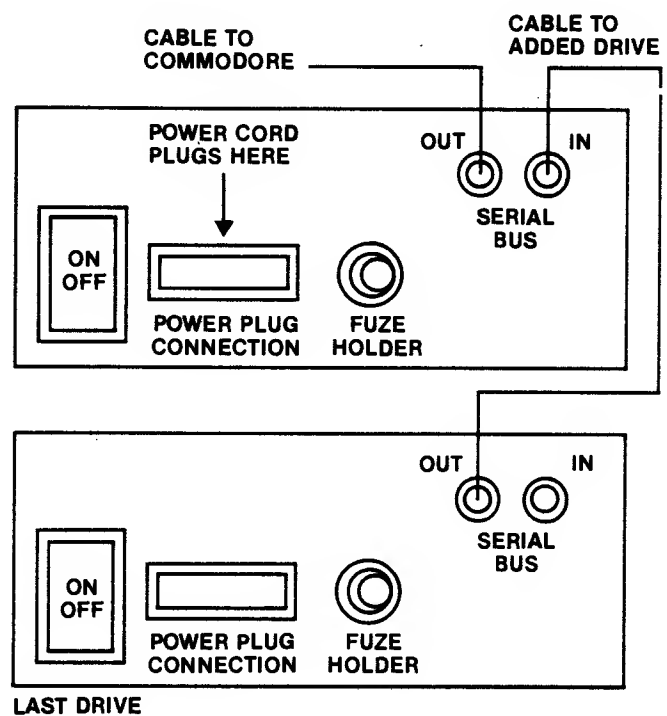

Fig. A-6. Connecting power and interface cables.
15. Reconnect power and connector cables as shown in Fig. A-6.